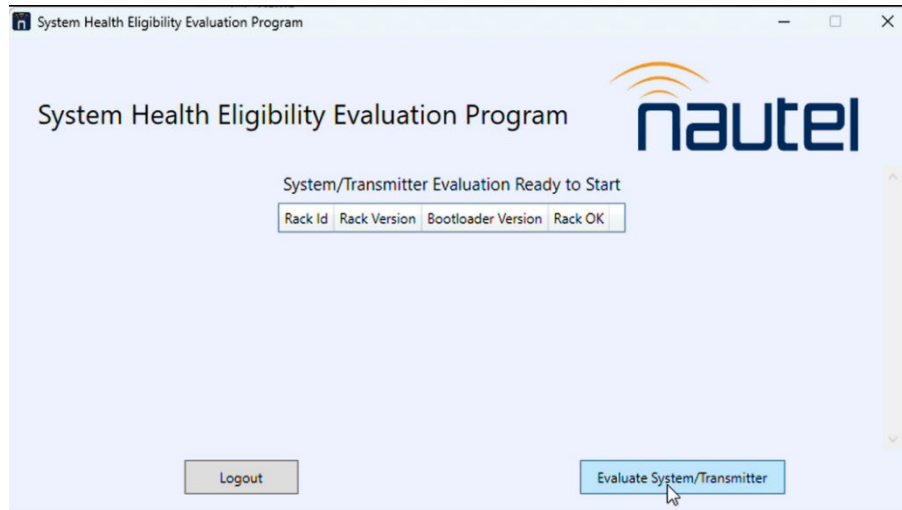

Figure 2: SHEEP start screen
- Enter the **System Login** parameters for the transmitter's remote AUI, including System/Transmitter (IP) Address, Port (default is 3501), Username (default is Nautel) and Password (default is no password). Click **Login to System**. If the connection is successful, the screen in Figure 2 will display. If the connection is unsuccessful, a connection error message will appear. In this case, verify the system/transmitter IP address and port number in the AUI's **Menu -> User Settings -> Network Settings** screen, re-enter the **System Login** parameters, and try again.